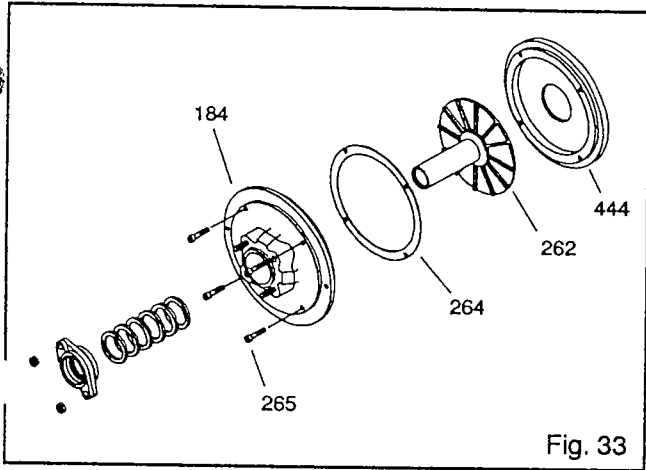

Fig. 33
3. Remove socket head cap screws (265) (Fig. 33).
4. Remove stuffing box cover (184) and gasket (264).
5. Remove repeller (262) from backplate (444).